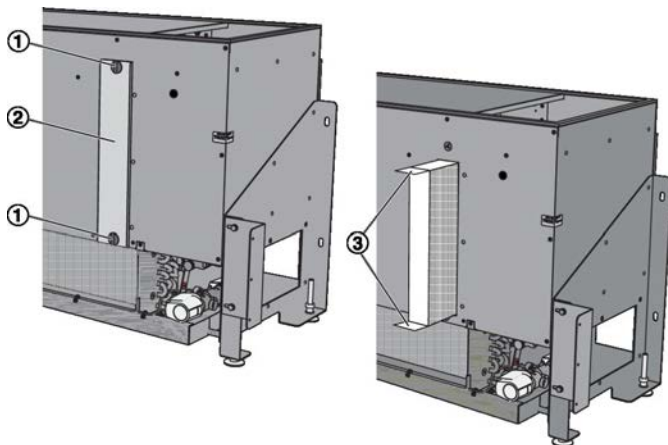

Fig. 21: Fine dust filter
3. ▶ Open the fasteners (Fig. 21/1) by turning them (¼), then remove the filter chamber cover (Fig. 21/2).
- Hold the filter by the lugs (Fig. 21/3) and pull it from the filter chamber.
*When you insert a filter, make sure that the two lugs (Fig. 21/3) stick out from the filter chamber and that the writing is legible.*